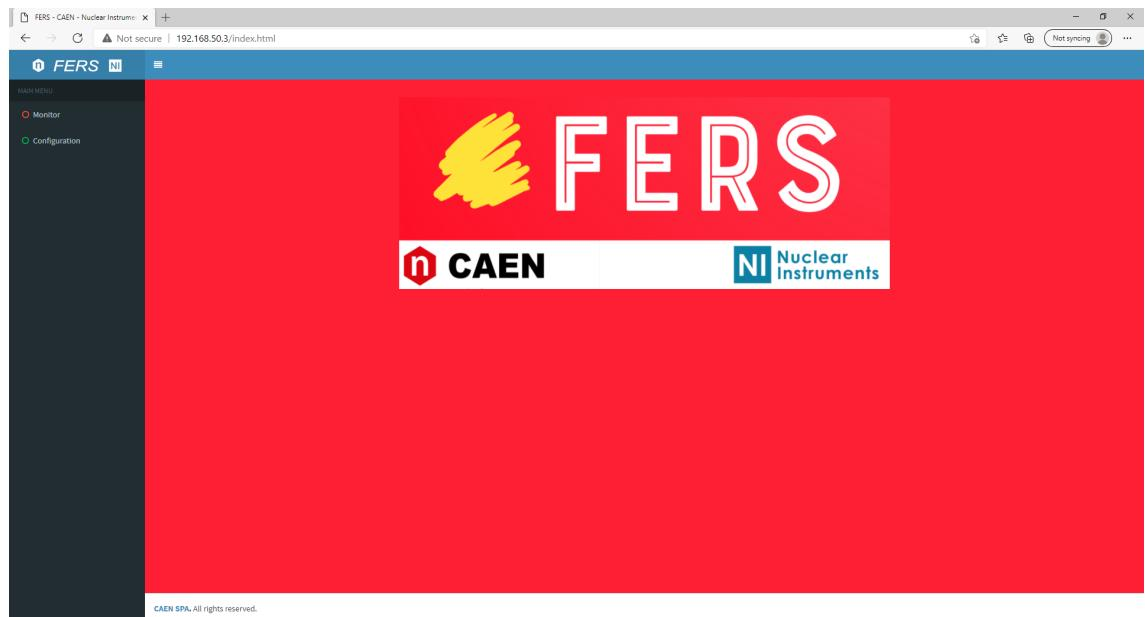

Fig. 10.7: Web Interface opening view.
1. Open a browser and enter the web address **192.168.50.3**. The homepage of the graphical web interface will open (see Fig. 10.7).